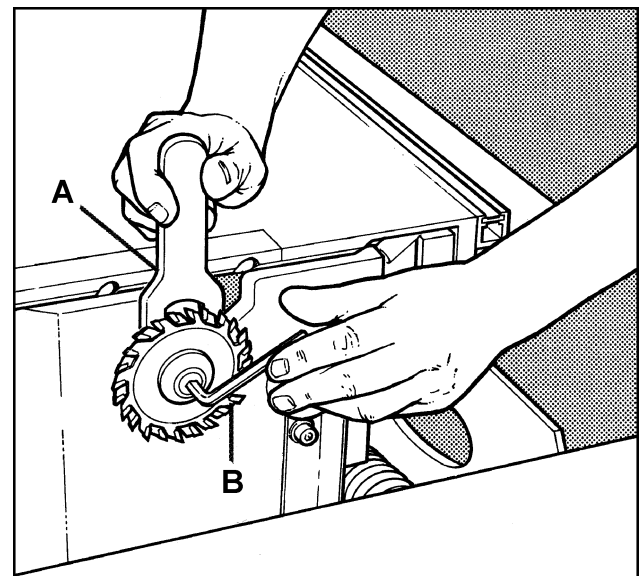

FIGURE 11
2. Tilt scoring blade arbor to the left, and place open end flat wrench (A-Fig. 11) on the flat of the arbor.
3. Remove socket head cap screw with the hex wrench (B-Fig. 11). NOTE: Left hand threads – turn clockwise to loosen.